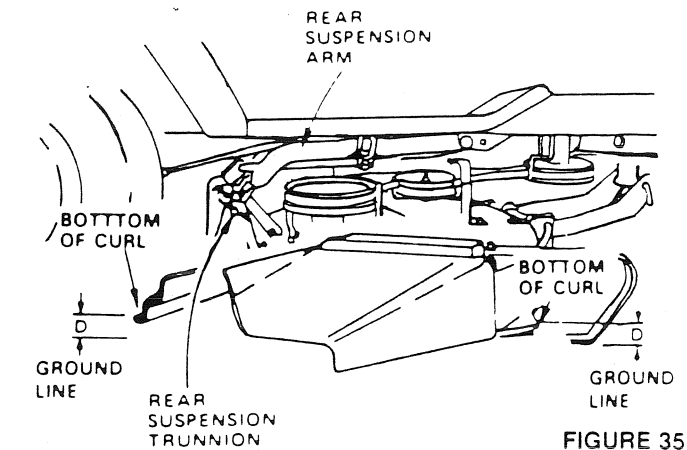

FIGURE 35
- a. To obtain the best cutting results, your mower housing should be adjusted so the front and rear flange distance "D" (Fig. 35) is 13mm (1/2") lower in front when the mower is positioned in the highest cutting position.